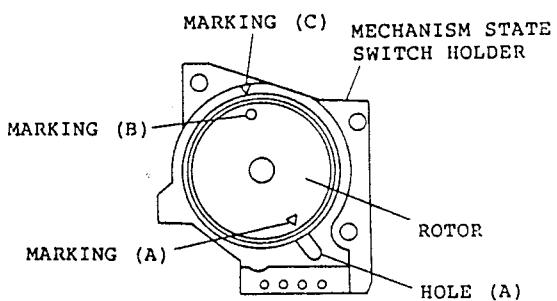

Fig. 3-4
## 2. MECHANISM STATE SWITCH PHASE MATCHING IN ASSEMBLY (Figs. 3-4, 3-5)
- 1) Align hole (A) in the mechanism state switch holder and marking (A) on the rotor. (See Fig. 3-4)